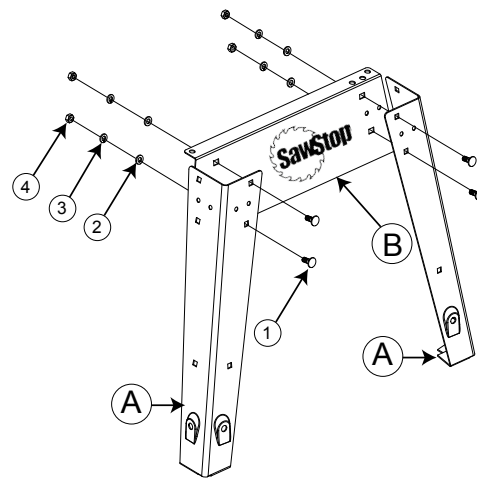

Fig. 2
2. Assemble the front of the stand by attaching two of the legs marked A to the front panel marked B (see Fig. 2). Make sure that the legs are in front of the front panel. Bumps on the legs fit into holes in the front panel to align the legs. Attach the legs to the front panel using four M8 x 20 carriage bolts, four M8 washers, four M8 lock washers, and four M8 hex nuts. Do not fully tighten the nuts at this time. Leaving the nuts loose will make it easier to align holes as you assemble the rest of the stand.